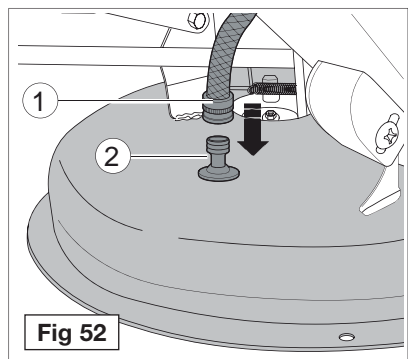

Fig 52
- 3) connect hose (fig.52 part 1) to the blade deck. (fig.52 part 2)
- 4) sit in the seat and engage the parking brake; move the gear lever to neutral (N).